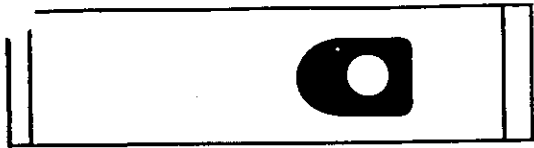

Fig. 3
**TYPE "Y" MICRO-FILTRATION** throw away bags are specified on all models as the primary (2 stage) filter **Figure 3**.